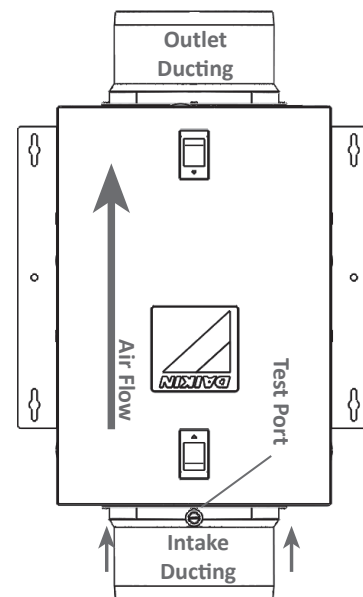

Figure 4 - Connecting ducting to the ventilator
1. Connect ducting to the ventilator's intake and outlet duct collars (Figure 4), sealing the joints with appropriately rated tape. Use screws or suitable clamps to secure in place. Make sure the outdoor air intake is connected to an intake port fitted with a suitable Air Intake Hood with insect screen to protect air intake. It is recommended that low restriction termination fittings be used.